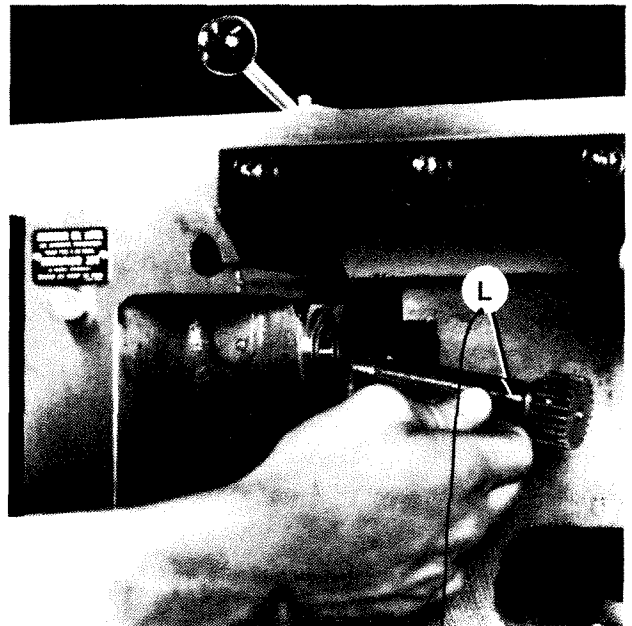

Figure 1.22 - Rack Pinion Removal
24. Pull the carriage past the end of the bed so rack pinion "L", Figure 1.22, is accessible and remove the rack pinion from the carriage.
1. Position the carriage on the bed so the hole for rack pinion "L", Figure 1.22, is accessible and install the rack pinion on the carriage.